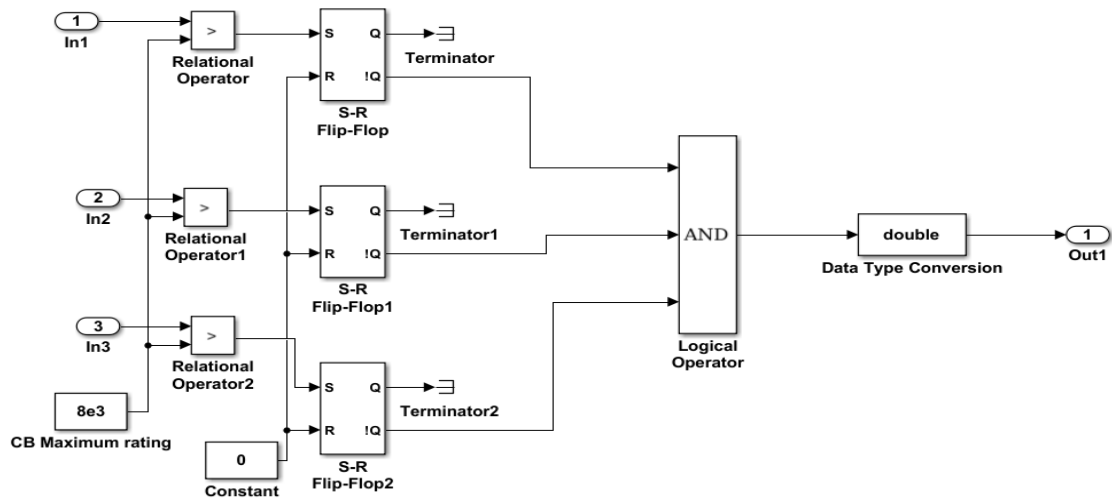

Figure 3: Relay Simulink model
3. connect each feature as configured in Figure 3 below.